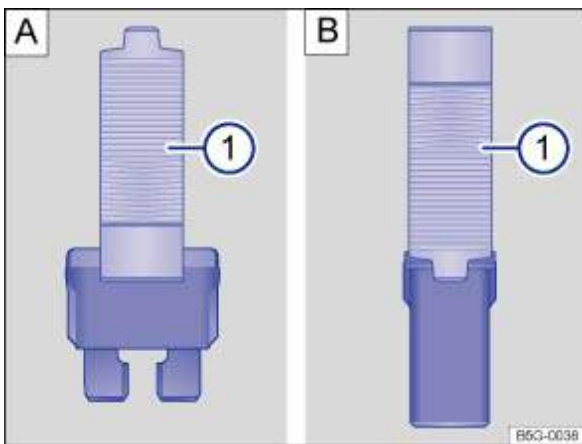

Fig. 208 Remove or insert fuse with plastic pliers: A: flat blade fuse, B: JCASE® fuse
- If applicable, take the plastic pliers → Fig. 208 ① out of the fuse box cover.
- Push the plastic pliers suitable to the fuse design → Fig. 208 A ① or → Fig. 208 B ① onto the fuse from the side.